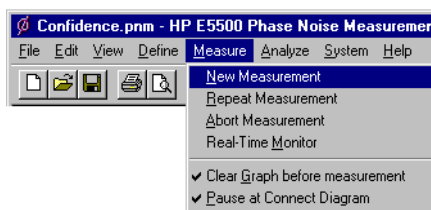

Figure 5-29 Selecting a New Measurement
- 1 From the **Measurement** menu, choose **New Measurement**. See Figure 5-29.